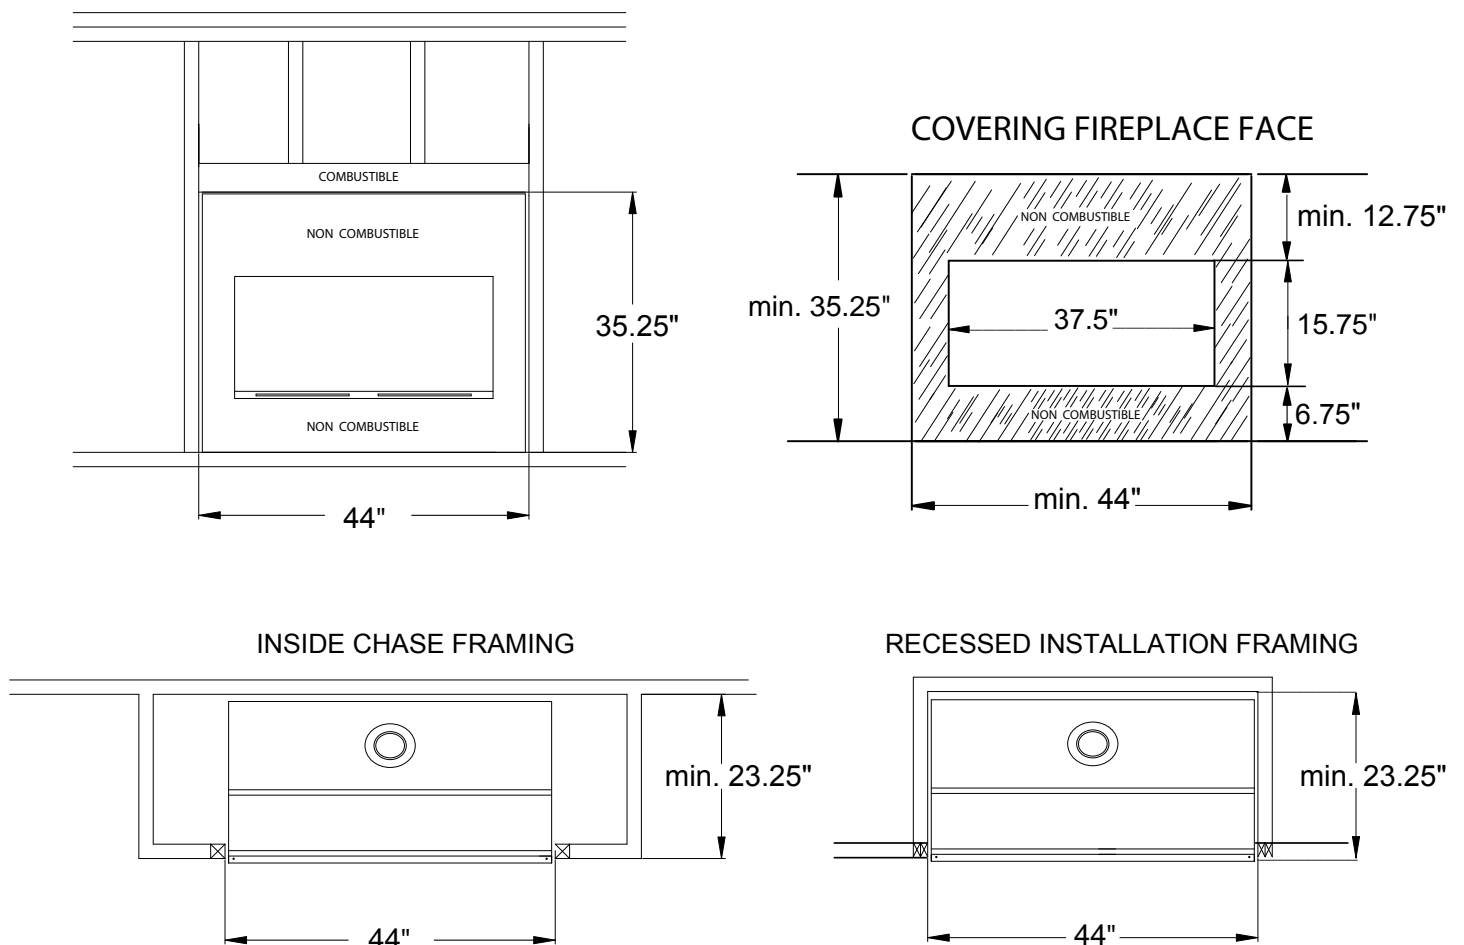
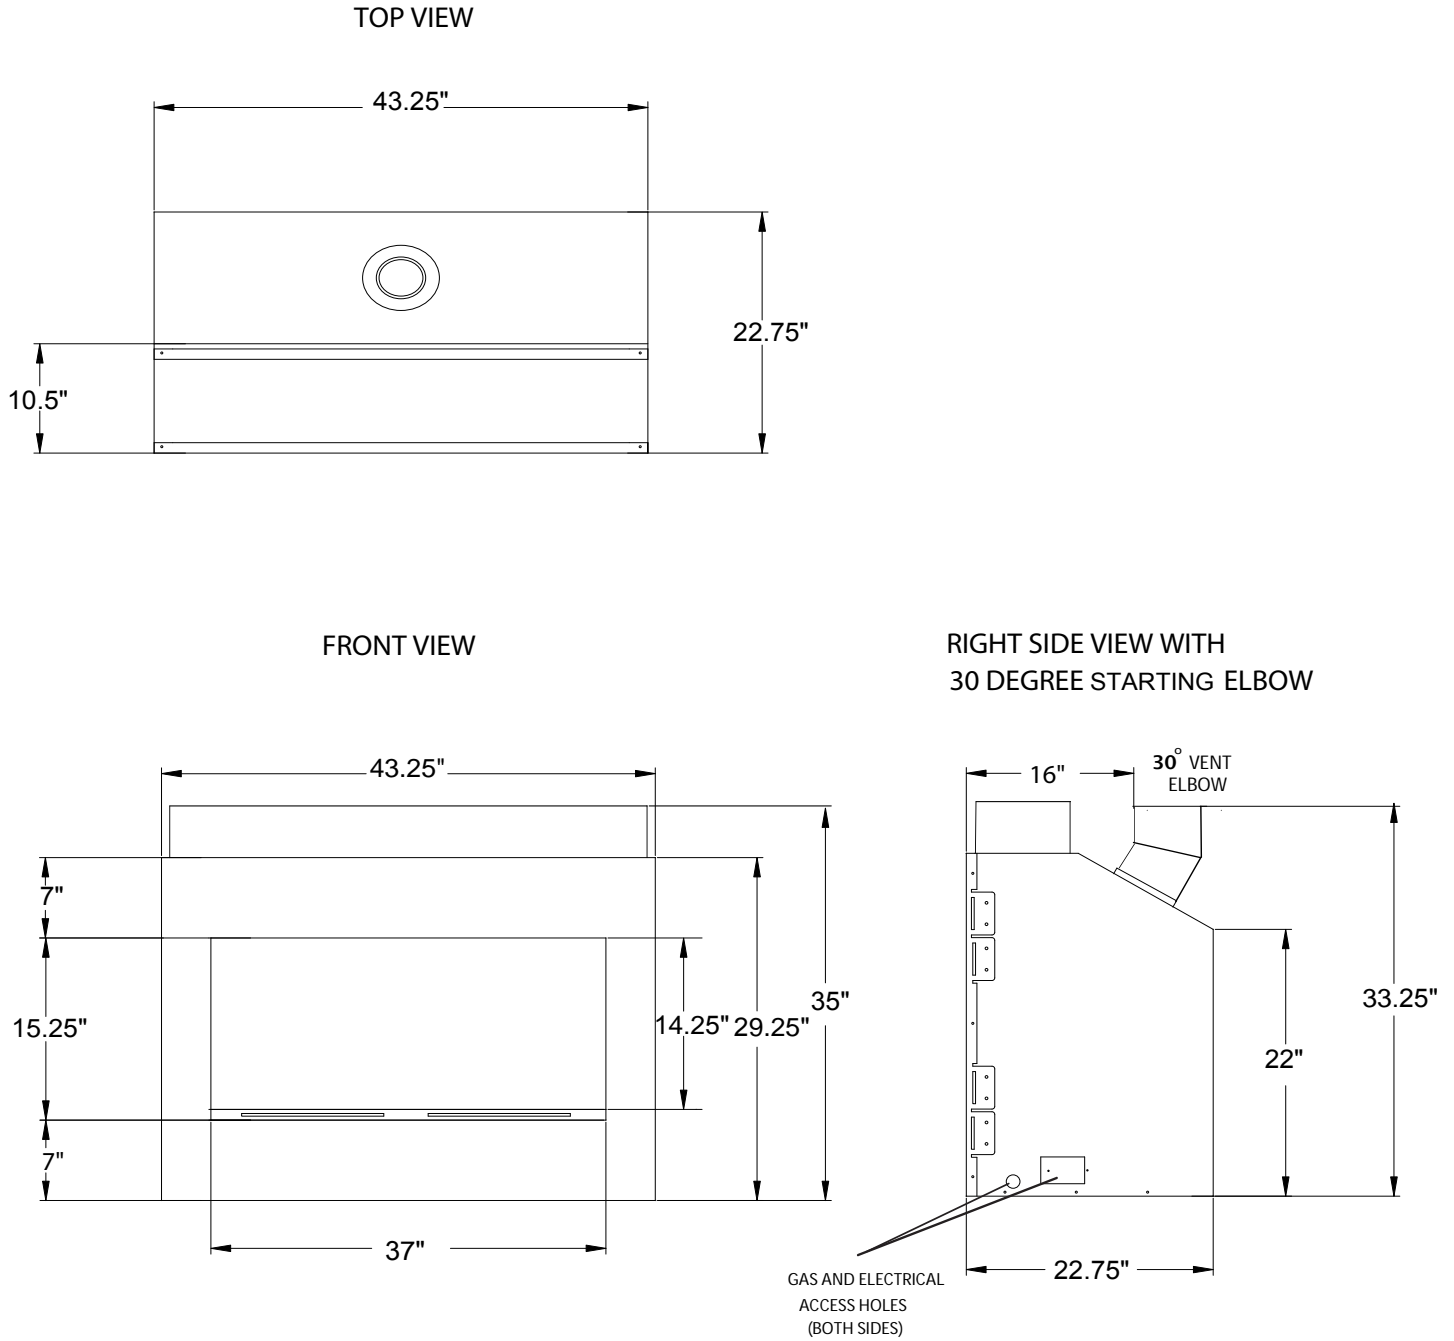

Figure 2 - Framing Dimensions
Figure 3 - Fireplace Dimensions
Firebox framing can be built before or after the appliance is set in place. Construct firebox framing following *Figure 2* and the chart below for your specific installation requirements. See *Figure 3 on Page 8* for firebox dimensions. The framing headers may rest on the top of the firebox standoff.
2. Minimum outside dimensions of the material over the facing are 44" x 35-1/4" (see *Figure 2*).